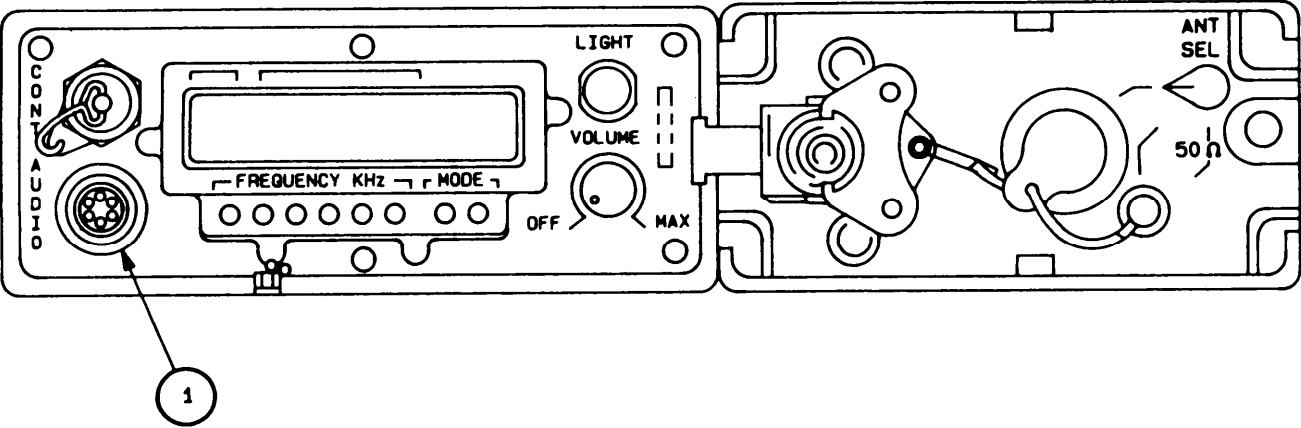

Figure 3-5 Initial Checks
**INITIAL CHECKS, fig 3-5**
4. Connect handset and, if applicable, voice encryption device to RT **AUDIO (1)** connector.